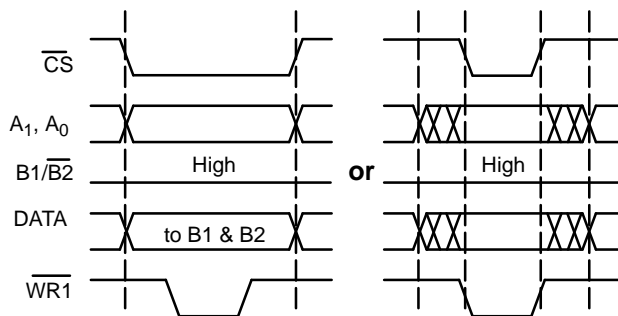

Figure 3a. 12 Bit Write Cycle
By keeping $B1/\overline{B2} = \text{high}$, a 12-bit bus has direct access to the 12 bits of the input latches. The condition $\overline{CS} = \overline{WR1} = 0$ loads the values contained in the data bus DB11-DB0 into the input latch addresses by A_1, A_0 (Figure 3a, Table 1).
- 1) Timing diagrams show the inputs \overline{CS} , A_1 , A_0 , DB11-DB0 to be stable during the entire writing cycle. In reality all the above signals can change (Figure 3a) as long as they meet the timing conditions specified in the Electrical Characteristic Table.
- 2) Only 16-bit bus cycles are shown in the next few examples of interface timing. It is possible to generate an 8-bit interface timing by replacing a single 12-bit write cycle (Figure 3a) with a double 8-bit write cycles (Figure 3b). 8-bit applications should ground inputs DB3-DB0.